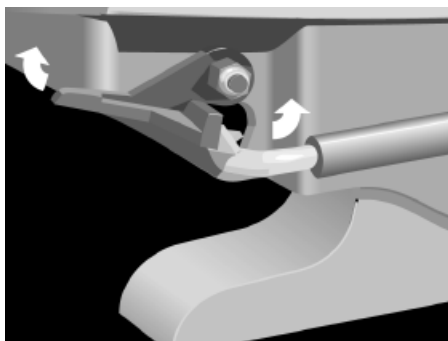

Figure 14
2. **UNLATCHED (LOCKSET)** - to unlock, rotate the operating rod handle upward until motion stops. The indicator tilts automatically. **Do not lift handle (Figure 14).**